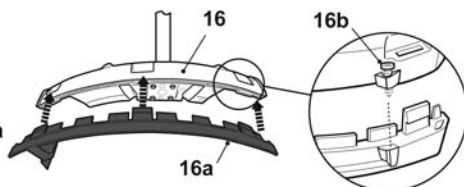

Fig. 6
- > In strimming mode, with the cutting head, fit the edge piece [16a] to the guard [16] by sliding the three tabs into the corresponding slots (Fig. 6), and screwing the screw [16b].